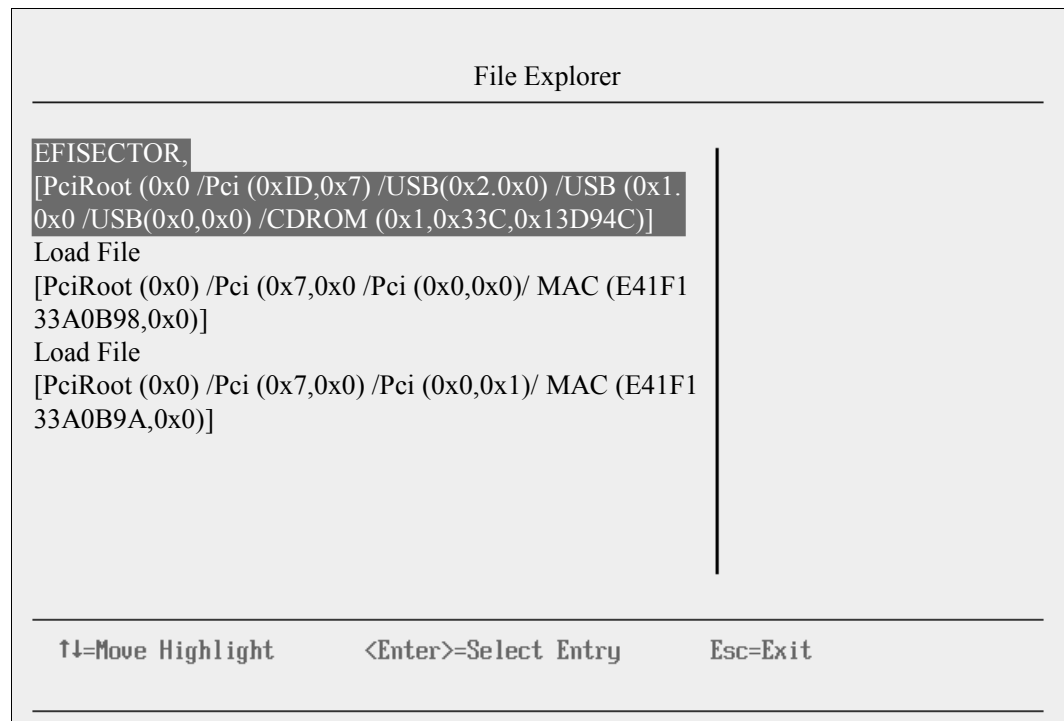

Figure 9-89 Selecting the CD
4. In the File Explorer panel (Figure 9-89), select **EFISECTOR** and the associated information, and then press Enter.